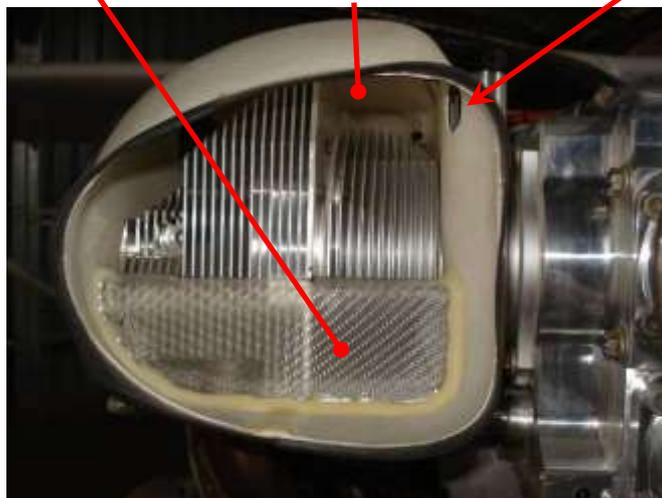

Figure 50. Front-On View Into Ram Air Duct
- Most of the time, air leaking through gaps instead of flowing through a cylinder head, oil cooler or similar is waste air – it does not transfer heat and does not cool the engine. Sometimes air leaking through controlled gaps – such as the holes in the front of the ram air ducts (Figure 50) or the gaps between cylinders – can have beneficial effects. However, it is recommended that gaps around the engine and oil cooler be closed as a starting point.
- The completed baffle is shown in Figure 50.